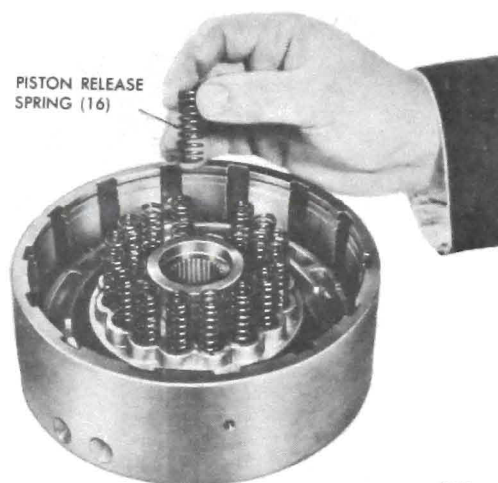

Figure 76-652
7. Remove tools, snap ring, spring retainer and sixteen clutch release springs. See Figure 76-652.